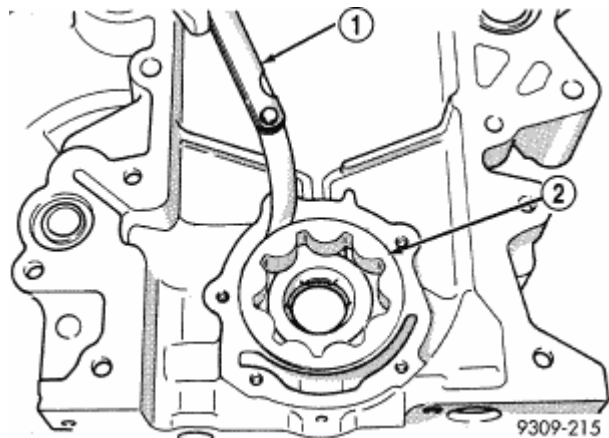

Fig. 190: Identifying Feeler Gauge & Outer Rotor
5. Install outer rotor into chain case cover. Press rotor to one side with fingers and measure clearance between rotor and chain case cover. See **Fig. 190**. If measurement is 0.39 mm (0.015 in.) or more, replace chain case cover, only if outer rotor is in specification.